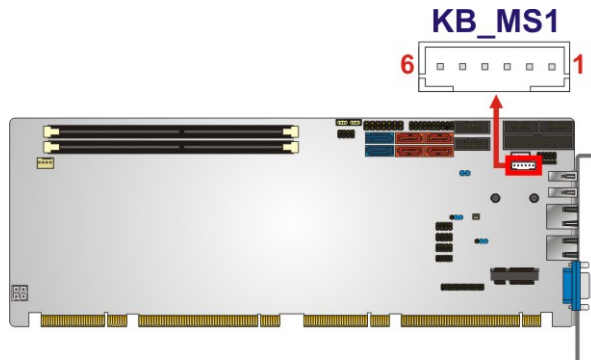

Figure 3-12: Keyboard/Mouse Connector Location
- CN Location:** See **Figure 3-12**